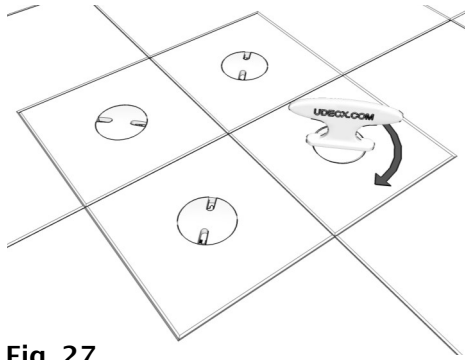
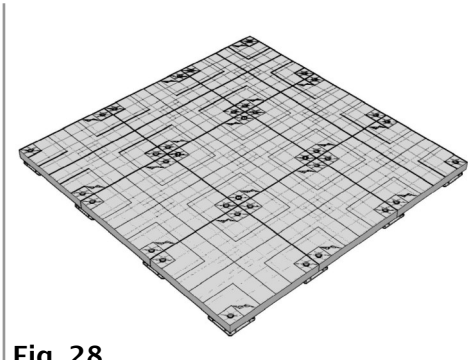

Fig. 27
Fig. 28
12. Insert Cam Locks (C) into the 4 cam ways in each additional Pad (B) (Fig. 27) and lock all Cam Locks (C) using the Lock Tool (E). (Fig. 28)